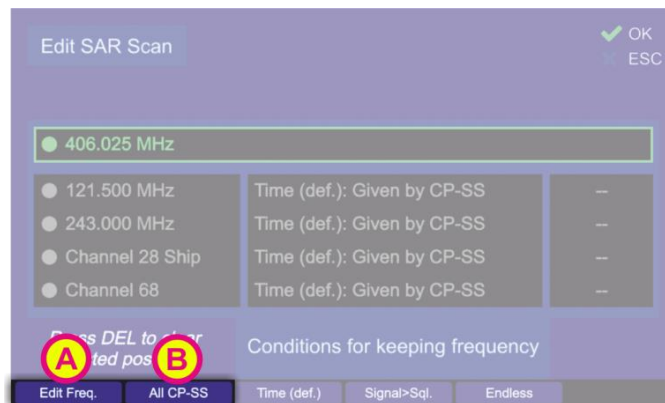

Fig. 52 Alternating hotkeys
- The hotkey “Edit Freq.” (s. Fig. 52, position A) is only visible if the COSPAS-SARSAT frequency (top frequency) or one of the free selectable frequencies is marked.
- The hotkey “All CP-SS” is only visible if the COSPAS-SARSAT frequency is marked (s. Fig. 52, position B). By pressing this hotkey a COSPAS-SARSAT scan will be started in order to find an active COSPAS-SARSAT frequency during SAR scan algorithm.